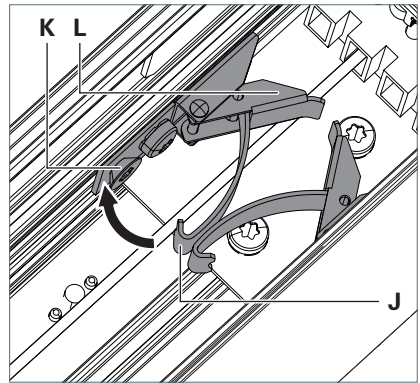

Fig. 24: Fastening the luminaires.
- ▶ Hang the bracket **J** into the screw **K**, see Fig. 24.